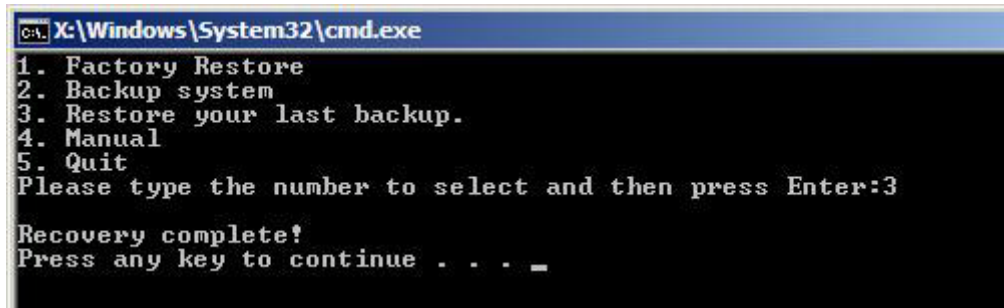

Figure C-39: Restore System Backup Complete Window
Step 3: The screen shown in **Figure C-39** appears when backup recovery is complete.